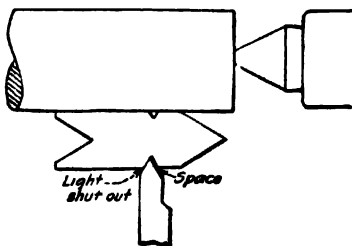

Fig. 17-20. Setting the thread tool.
4. The cutting point of a thread tool should be exactly on center, and the cutting edges set exactly to gage (Fig. 17-20). Do not jam the thread tool into the V of the gage, but leave a little space between. With the gage against the work, move one side of the little V against one cutting edge of the tool and, by holding a piece of paper underneath, see if the light is shut out. If one side is all right try the other side, and thus check the grinding of the tool.